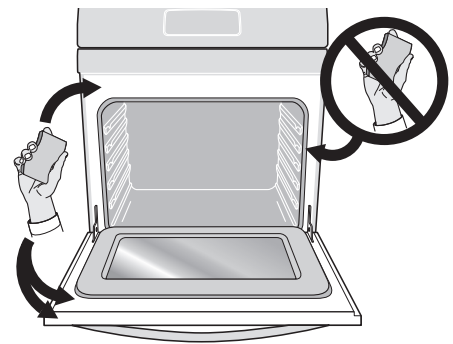

Figure 19: Clean around the oven door gasket
- Do not clean the oven door gasket (Figure 19). The woven material of the oven door gasket is essential for a good seal. Care should be taken not to rub, damage, or remove the gasket. Do not use any cleaning materials on the oven door gasket. Doing so could cause damage.
- Clean any soil from the oven frame, the door liner outside the oven door gasket, and the small area at the front center of the oven bottom. These areas heat sufficiently to burn soil on. Clean with soap and water. These areas are shown in white (Figure 19).